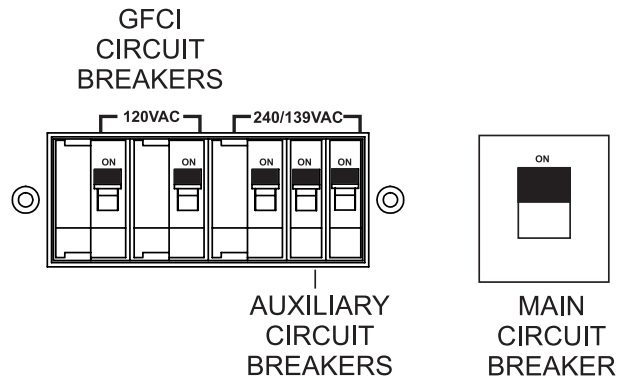

Figure 55. Main, Aux. And GFCI Circuit Breakers (ON)
10. Place the **main, GFCI, and aux.** circuit breakers in the **ON** position (Figure 55).